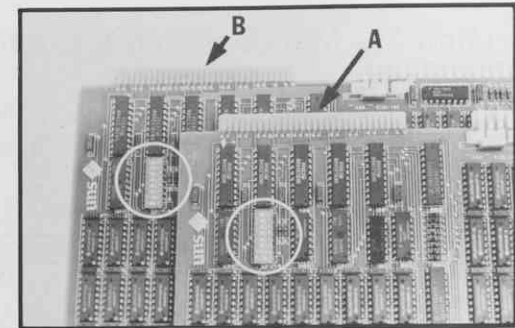

Figure 16 Switch Settings - Low Power 1mB Memory Boards
- 2.2 Note the switches at the position marked U506 on the low power memory board(s) in Figure 16.